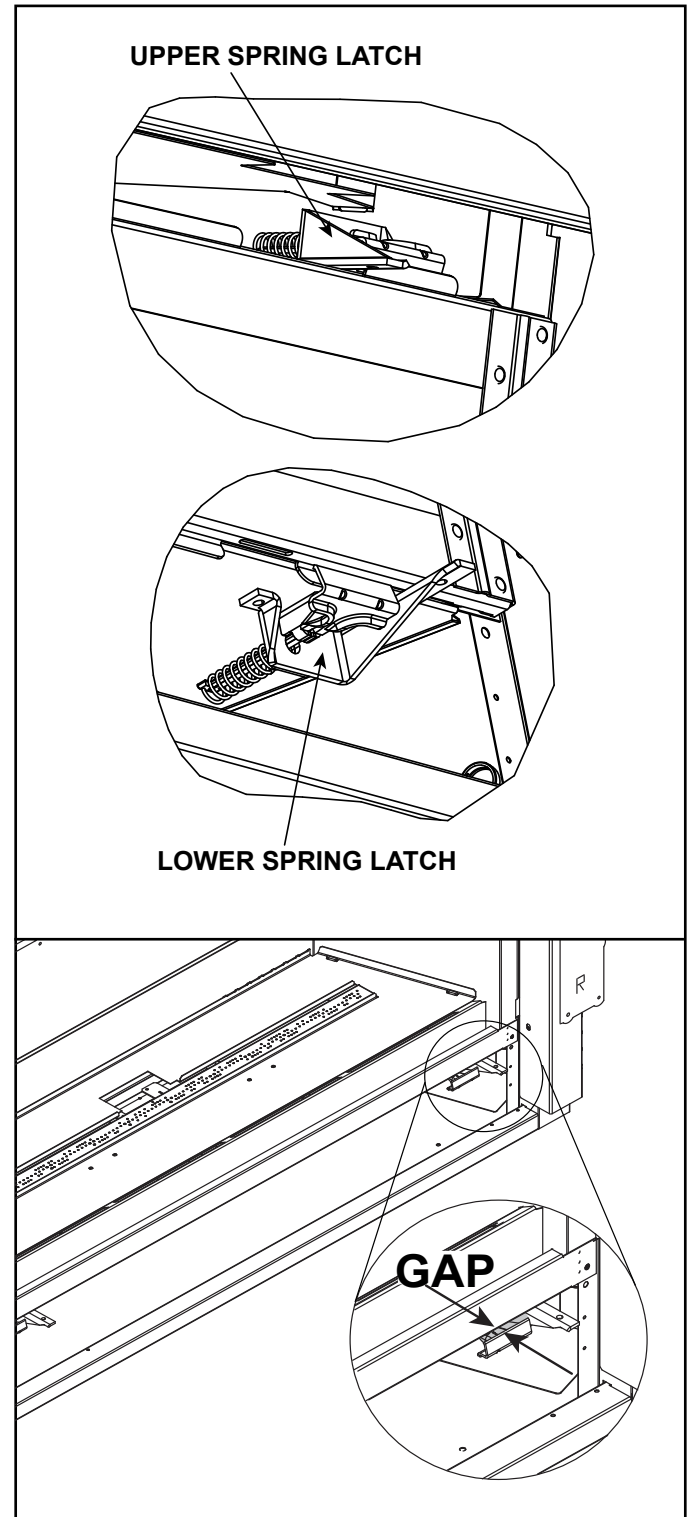

Figure 11.1 Fixed Glass Assembly
2. The glass assembly has two upper spring latches and two lower spring latches. See Figure 11.1. Locate the two spring latches that are on the upper left and right of the fireplace.
Note: Observe the presence of a space or gap between the glass latch and the front of the appliance where the bottom of the glass assembly is positioned. This gap is designed for positive placement when replacing the glass assembly. See Figure 11.1 and Section G.
The bottom glass latches have been designed to create a small gap between the glass clip and the face of the appliance. See Figure 11.1.